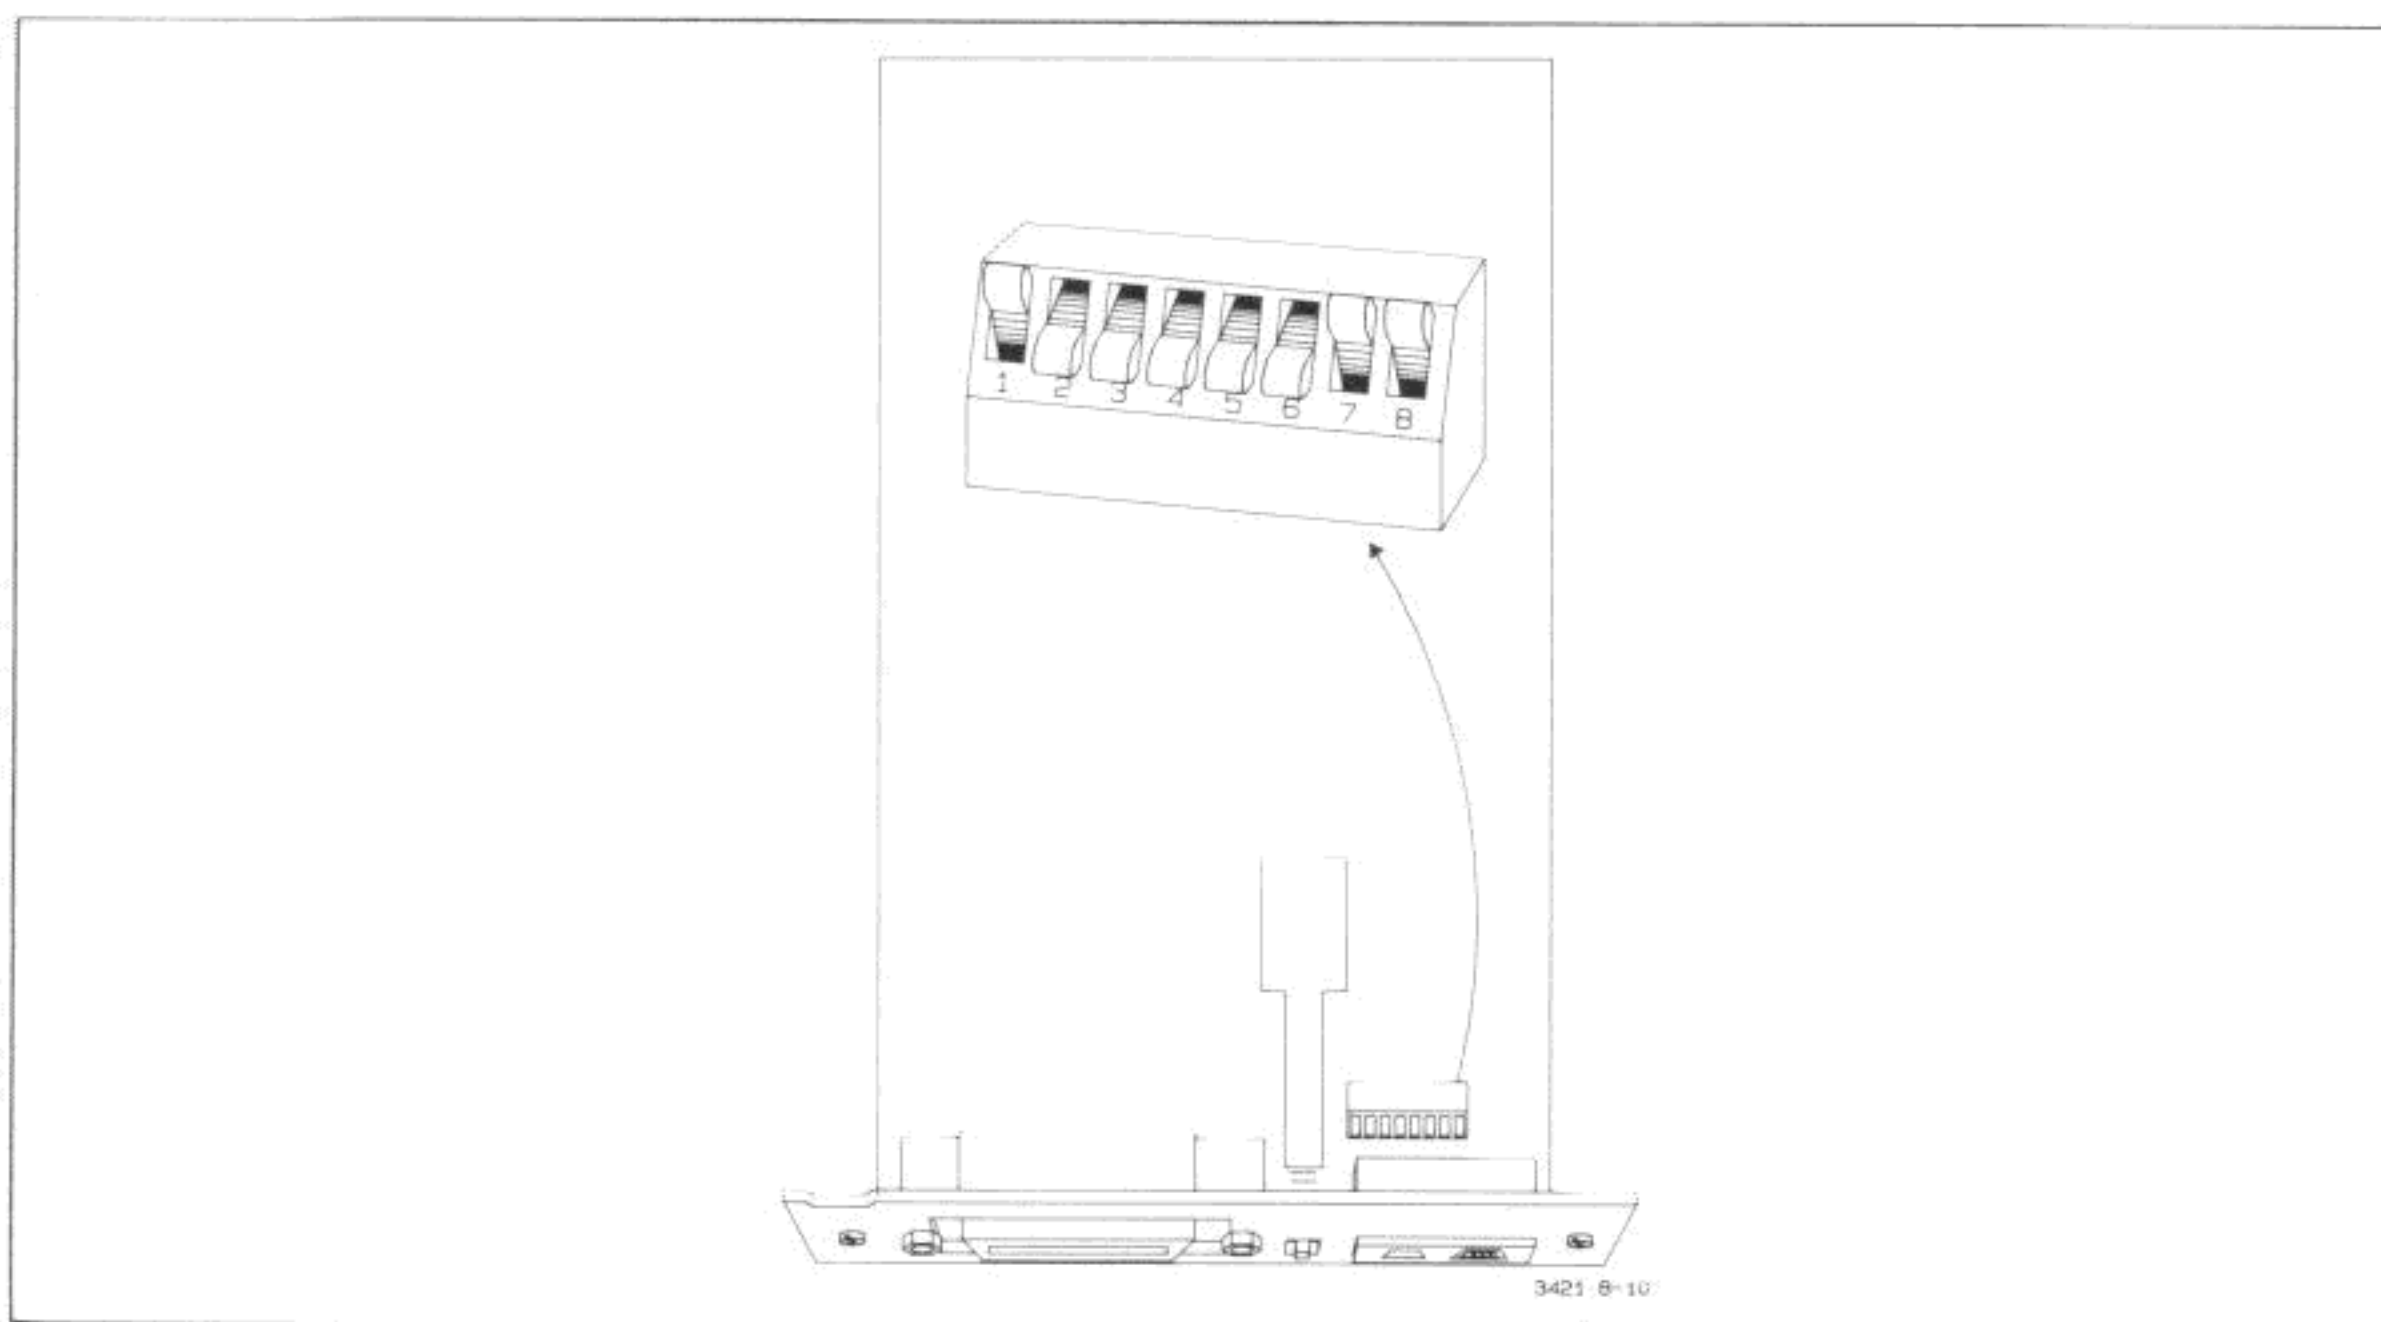
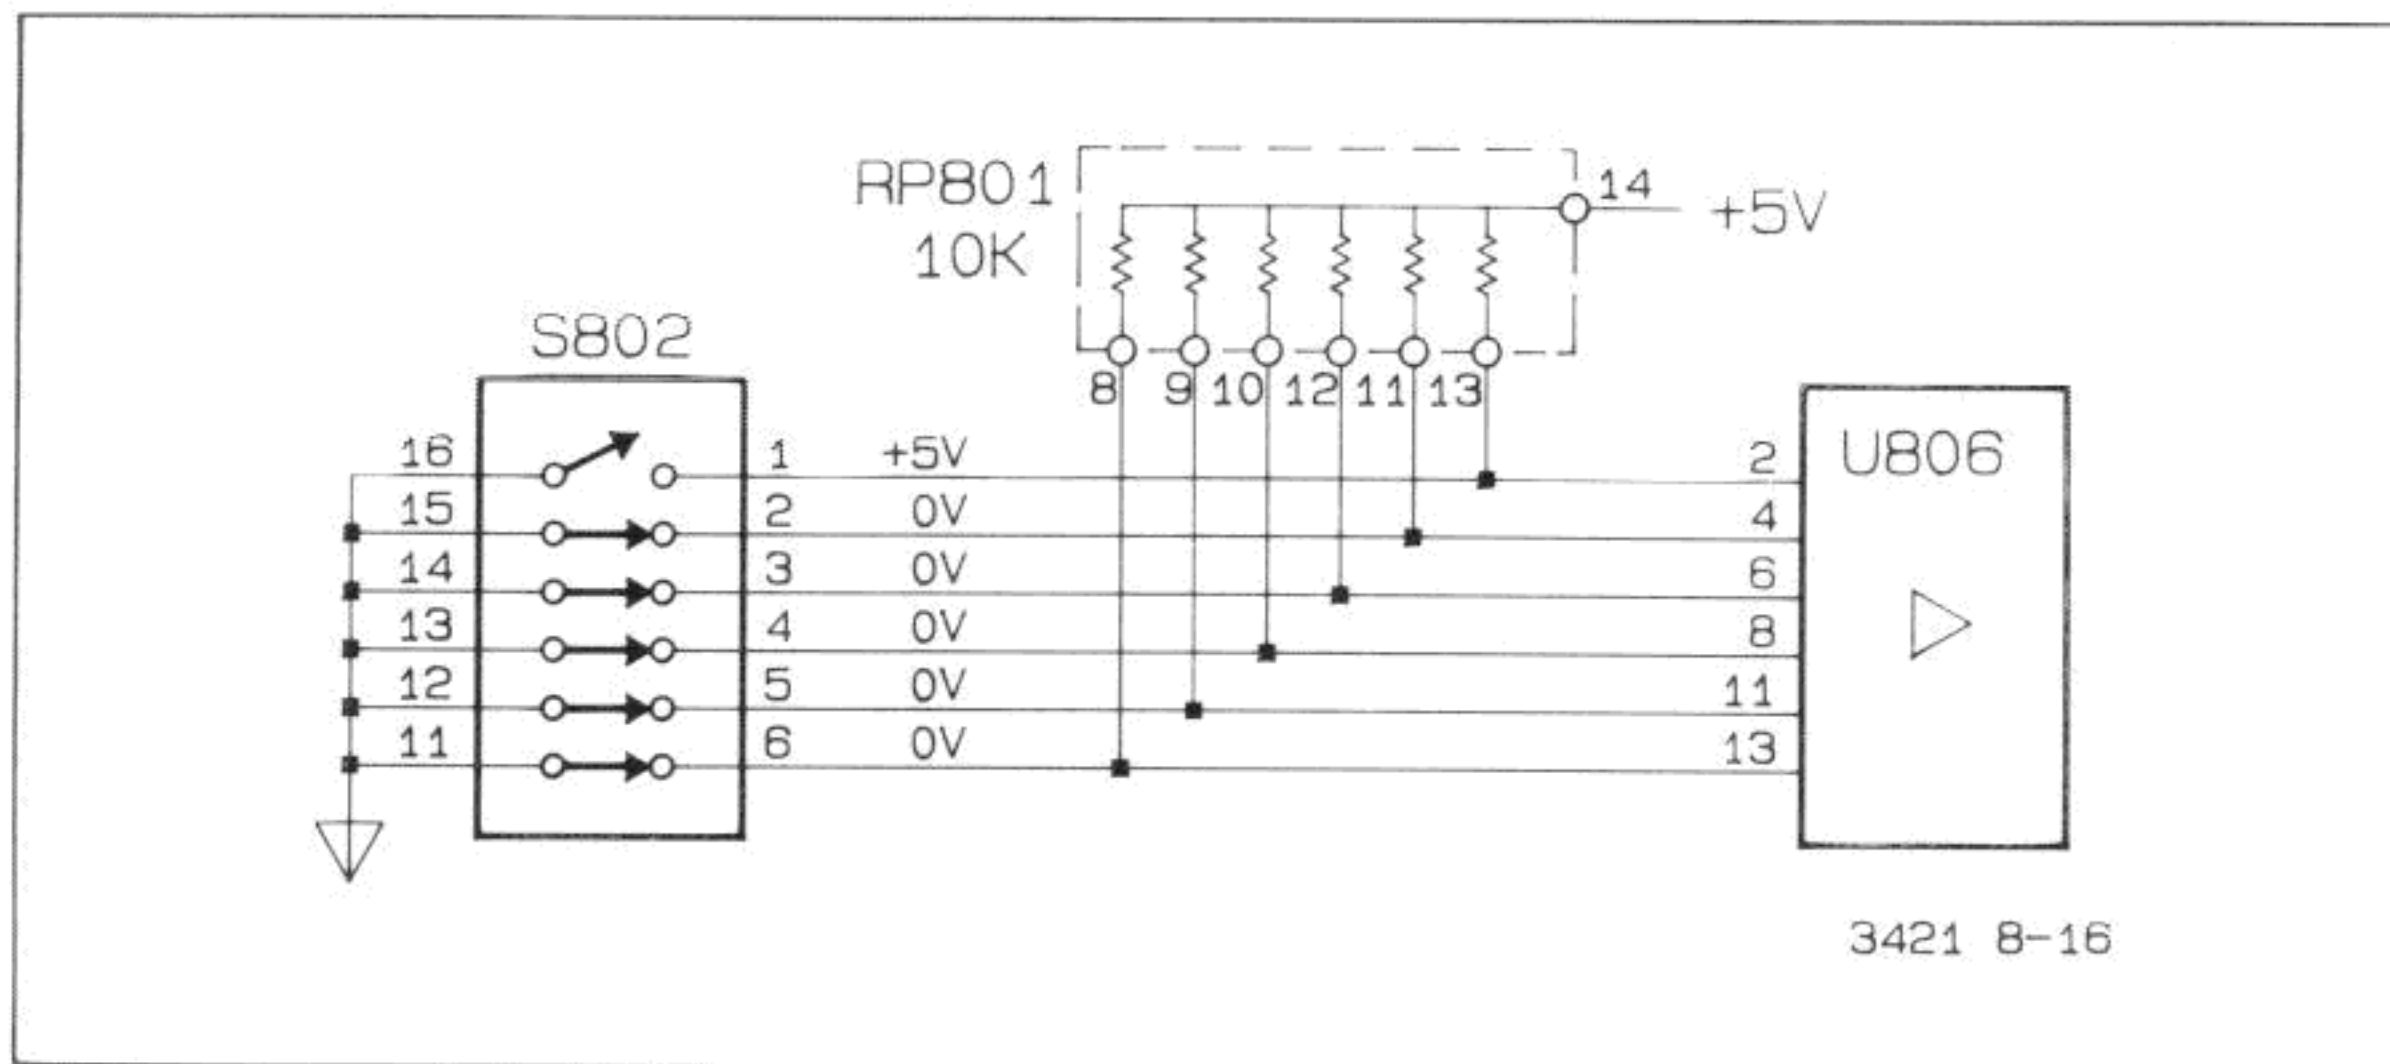

Figure 4-8-10. S802 Switch Settings for Signature in Table 4-8-3
Figure 4-8-16. Checking the S802 Circuitry
b. Refer to Figure 4-8-10 and move switch segment 1 of S802 to the up position (away from the pc board). Leave switch segment 2 through 6 in the down position (toward the pc board). Switch segments 7 through 8 are left in the up position for this test. The signatures for this setup are listed in Table 4-8-3.
Table 4-8-3. Signatures for Figure 4-8-10 Switch Settings (SA Test #1)
4-8-72. Figure 4-8-16 shows a schematic representation of S802 and its associated circuitry. The switch segment positions illustrated correspond to the switch settings of Figure 4-8-10 and the signatures listed in Table 4-8-3. In this configuration, switch segment 1 (pin 1 and 16) is open (away from the pc board) and switch segments 2 through 6 are closed (toward the pc board). This is the only switch setting that is illustrated. Therefore, if the incorrect signature was found with the switch segment set differently, you must modify the procedure accordingly.
b. Refer to Figure 4-8-16 and check for +5V at U806 pin 2. If the voltage is correct, proceed with step c. If incorrect, check S802 pin 1 (square pad on circuit side of board) for +5V. If the voltage is correct, either the trace between RP801 pin 13 and U802 pin 2 is open, or RP801 is defective.